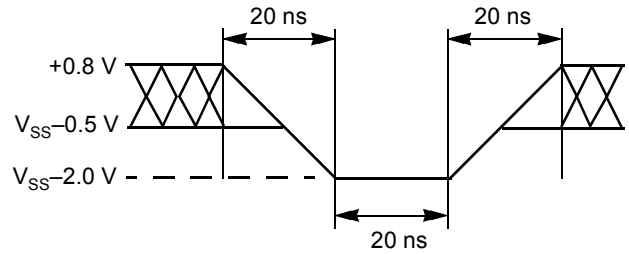
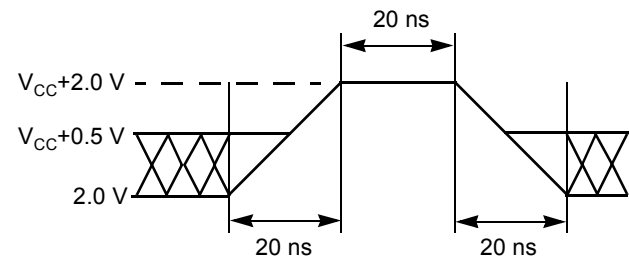

Figure 13. Maximum Negative Overshoot Waveform
Figure 14. Maximum Positive Overshoot Waveform
1. Minimum DC voltage on input or I/O pins is -0.5 V. During voltage transitions, input or I/O pins may overshoot V_{SS} to -2.0 V for periods of up to 20 ns. Maximum DC voltage on input or I/O pins is $V_{CC} + 0.5$ V. See Figure 13. During voltage transitions, input or I/O pins may overshoot to $V_{CC} + 2.0$ V for periods up to 20 ns. See Figure 14.